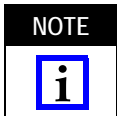

Figure 1
Each die assembly consists of an indenter die and an anvil die. When closed, the dies form two crimping chambers. Each die is held in the tool by a single screw. See Figure 1.
2. See Figure 1 for orientation of the dies, and insert the dies inside the tool jaws. Align the retaining screw holes.